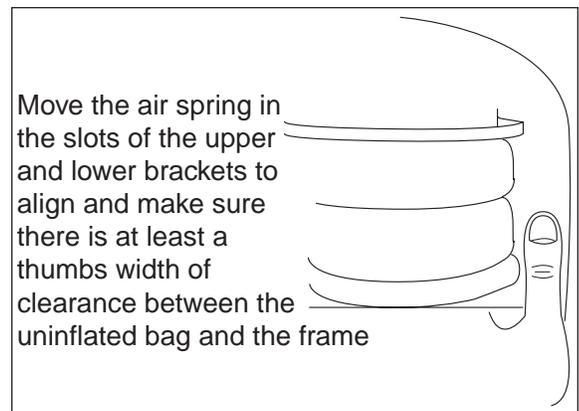

Figure 12
6. Align the air spring uniformly between the upper and lower brackets and check the air spring alignment (Figure 12).